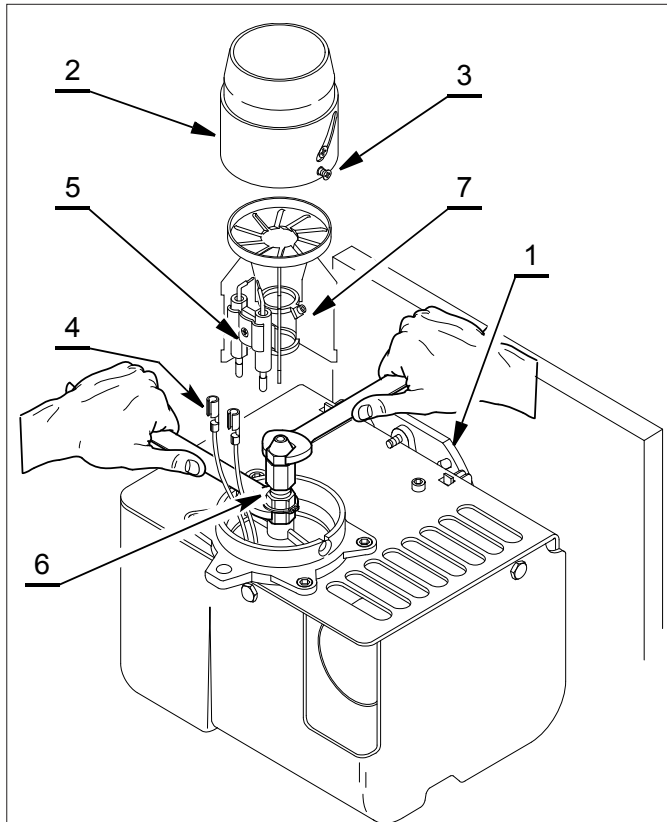
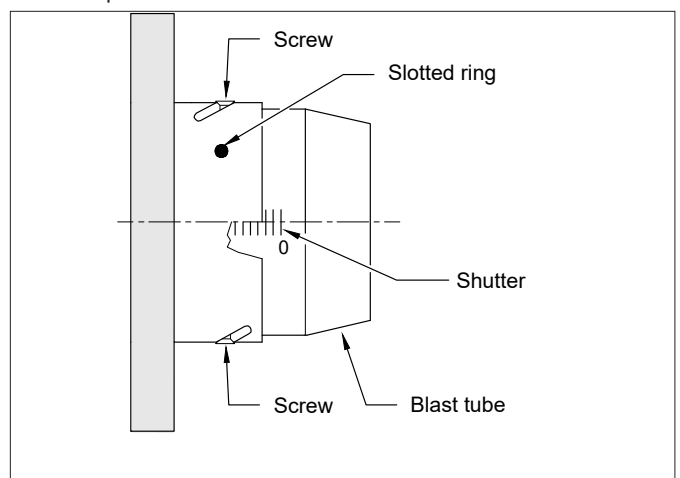

Figure 10-6: Riello RDB 3.2 burner head, diffuser and nozzle holder
Figure 10-8: Riello RDB 3.2 combustion head adjustment
1. Remove the burner head. Refer to Figure 10-6. Loosen both fixing screws (3) and remove head from burner (2).
3. If the nozzle needs to be replaced - Remove the diffuser/electrode assembly. Refer to Figure 10-6.
- Loosen the diffuser clamp screw (7) and remove the diffuser/electrode assembly from the nozzle holder (6).
- Disconnect both ignition leads (4) from the electrodes.
7. Refer to figure 10-6. Slide diffuser (5) along the nozzle holder (6) until hard against the stop and tighten diffuser clamp screw (7).
9. Re-fit the burner head. Refer to Figure 10-6.
- Tighten the two screws (3) to secure the head (2) in position on the burner.
- In this case the head is set to '4' (i.e. on the 4th line). Refer to Figure 10-8.
- Loosen the two screws in the curved slots in outer ring of the head (NOT the two head fixing screws). Refer to Figure 10-8.